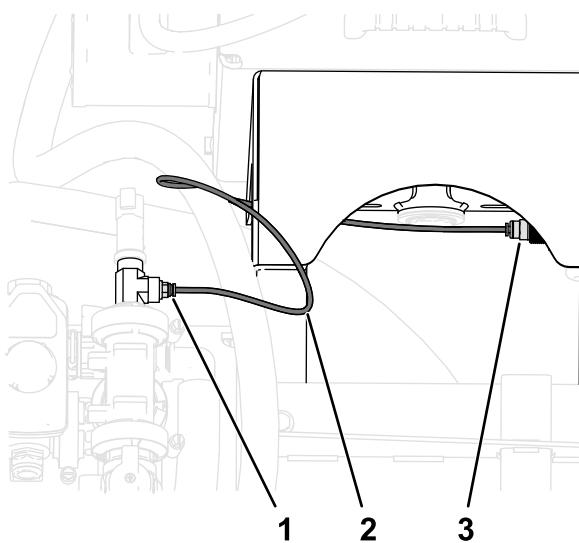

Figure 49
3. Connect the pressure transducer tube to the coupling at the pressure gauge (Figure 49).